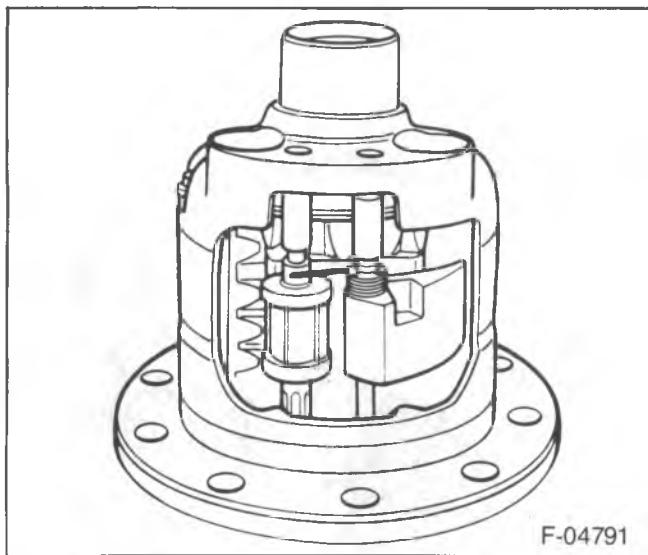

Figure 8—Governor and Latching Bracket
- 7. Pinion shaft (18).
- 8. A new lock screw (3). Install finger tight.
- 9. Governor assembly (23) and latching bracket (11).
- The straight end of the latching bracket spring must be over and outside the governor assembly shaft (figure 8).
- 10. Stop pin (2) (9½-inch)
- 11. Governor bushing (4).
- 12. Latching bracket bushing (5).